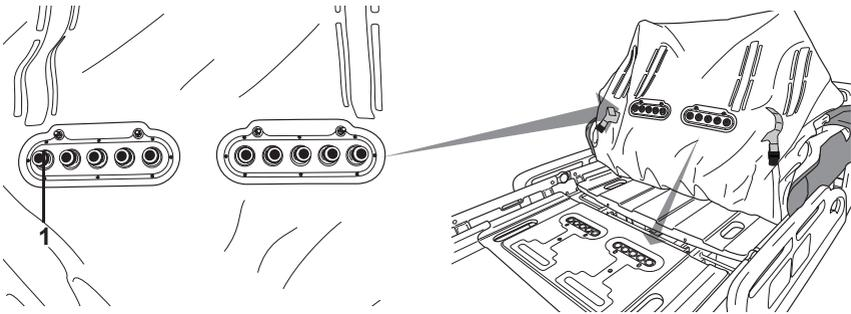

**Figure 4: Connect air hoses to mattress control unit**
14. Connect air hoses (figure 4, item 1) to air mattress control unit (2); ensure O-rings are on connection ports. Air hoses attach straight across from the dump valve assembly over the foot extension crossbar to the air mattress control unit in order from left to right / right to left. A distinct click will be heard when the air connectors are fully attached.
15. Connect AC power cable (figure 4, item 3), CPR cable (4) and communication cable (5).